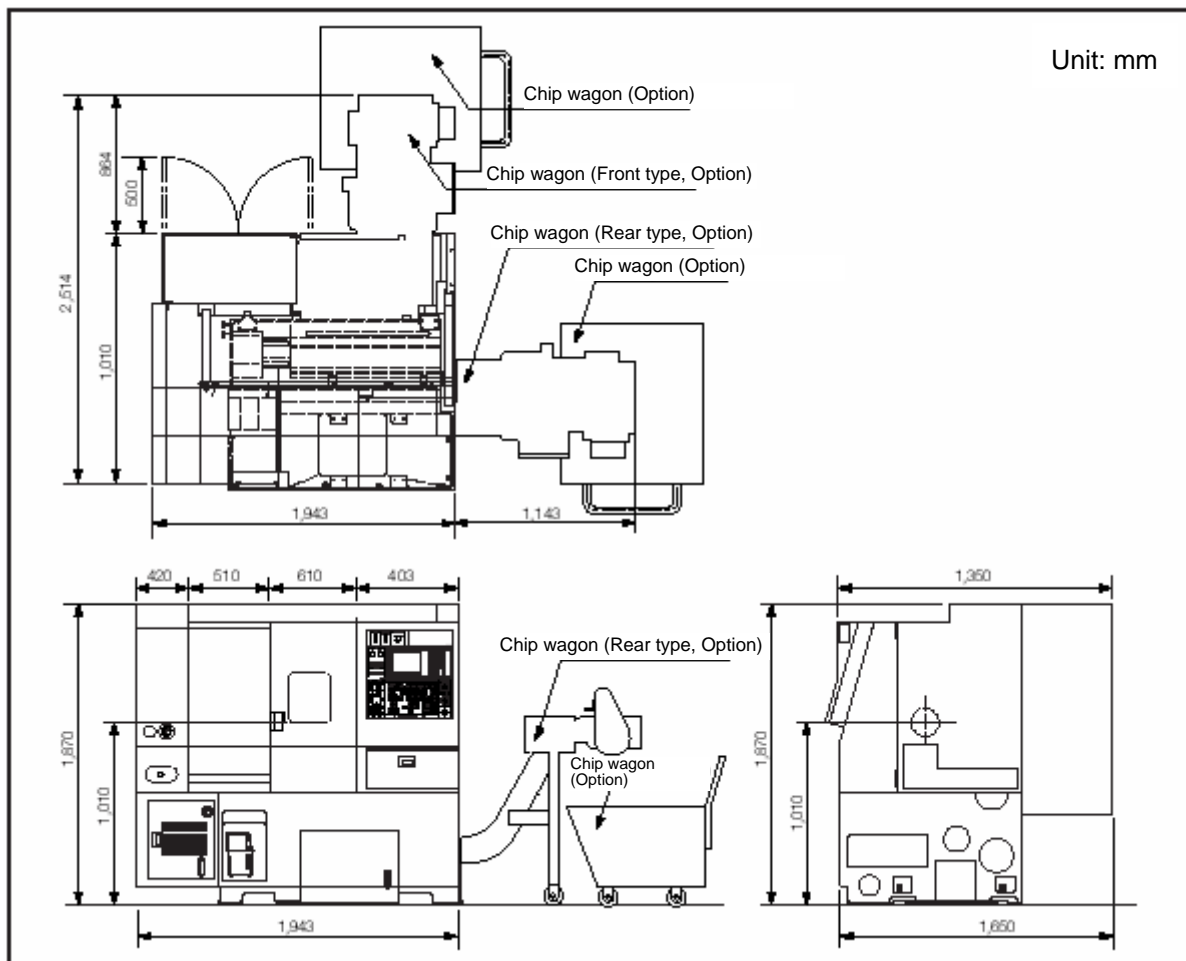

Fig. 4-1 Layout of Machine
Figure 4-1 shows the dimension concerned when attaching special accessories, ie. the chip box and chip conveyor to the body of machine.
2. It is required to prepare space for maintenance, if optional accessory was attached (See Fig. 4-1).